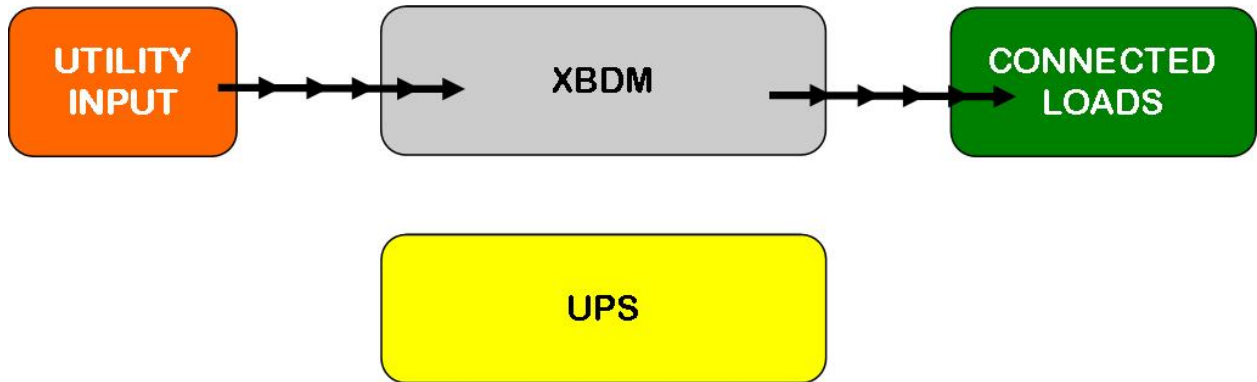

Figure 2 – Block Diagram without UPS
As shown in fig. 2 block diagram:
1. Attach the two (2) XBDM horizontal mounting brackets (included) on each end of the XBDM using four (4) retaining screws (included) see Figure 2.
2. Attach the two vertical mounting brackets (included) to the horizontal rack mounting brackets on each end of the XBDM using four (4) retaining screws (included) see Figure 2.
3. Install the XBDM in a suitable vertical location on the side of the rack rail with four (4) user provided mounting screws.